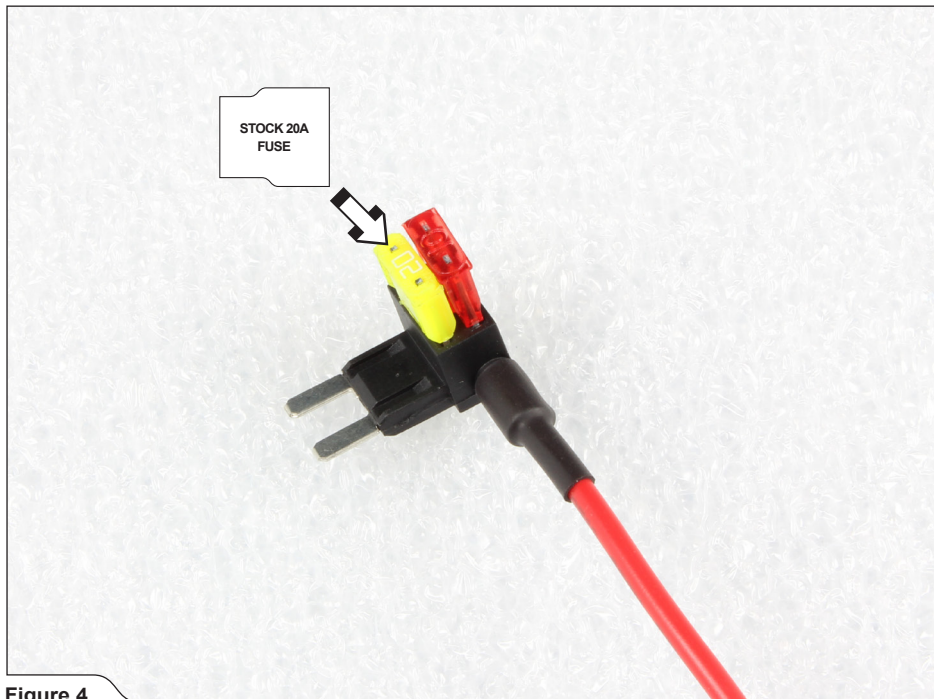

Figure 4
4. Install the stock 20A fuse into the fuse tab's free spot (**Figure 4**).